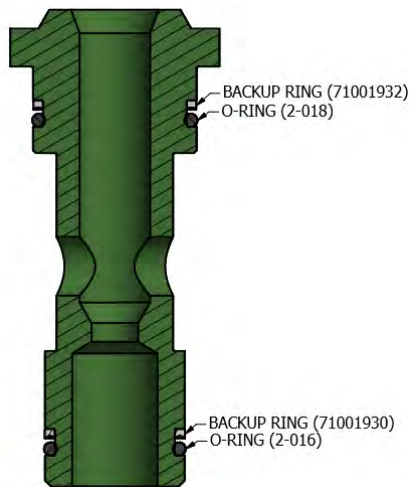

Figure 6 – Stem Trim
- 7.7 Install the external backup rings and O-rings per Figure 6.